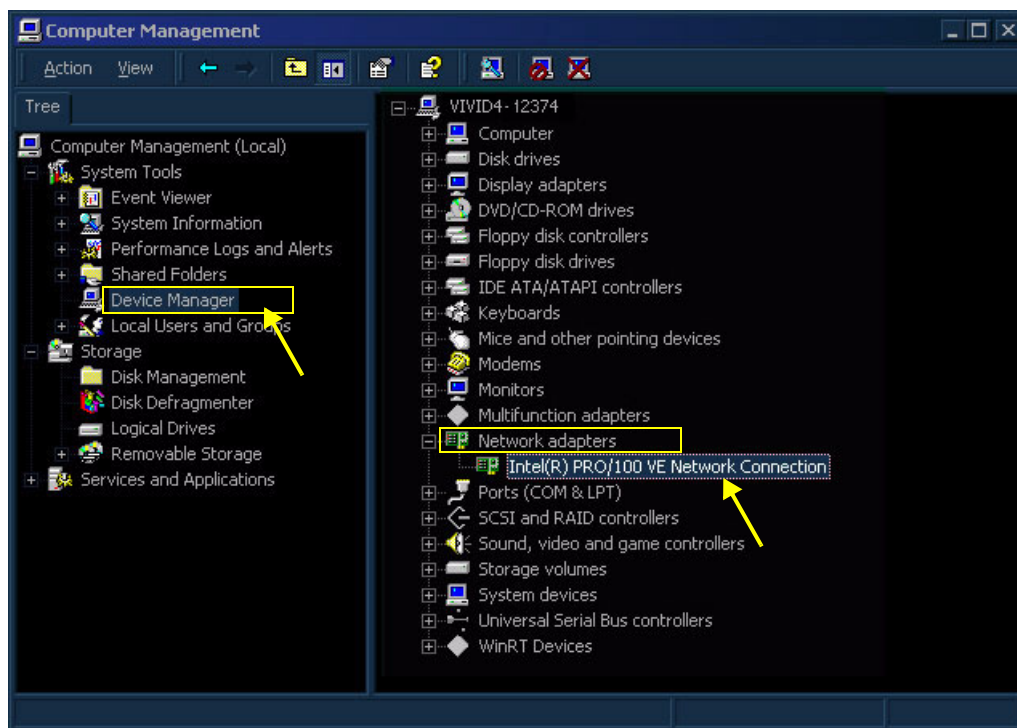

Figure 7-57 Checking the Network Adaptors
- 3.) Make sure that the **Intel(R) PRO/100VE Network Connection** is indicated as shown in Figure 7-57, above.